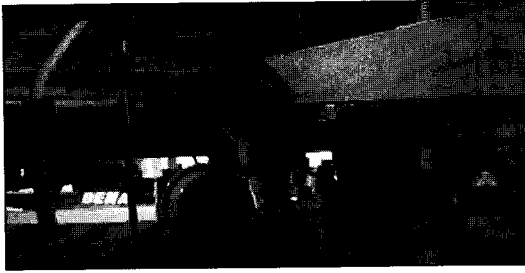

Fig. 43-1 : manual drain valve
- if the tank(s) are fitted with manual drain valves (Fig. 43-1) open them regularly to remove all water.